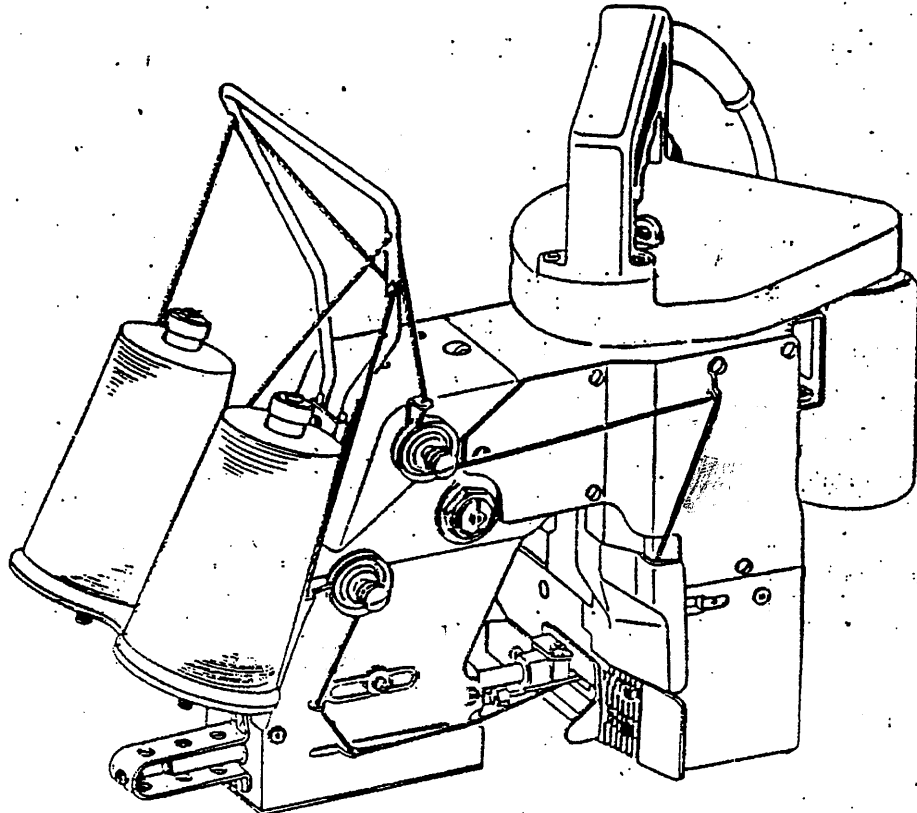

Fig. 02
B. Threading : (See also Fig.02)
- a. Threading procedure for CN27A Please refer Fig. 02